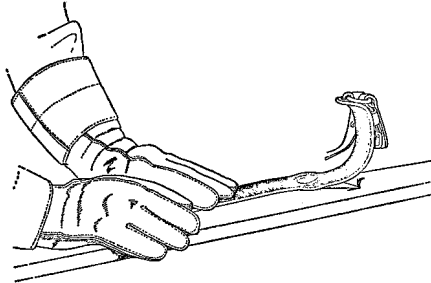

FIGURE 16.
- (1) Place the climber on a soft pine or cedar board as shown in Figure 16, with the point of the gaff and the loop strap resting against the wood surface. Hold the stirrup of the climber in a vertical position, without exerting any downward pressure, and slide the climber along the wood by pushing forward on the leg iron. If the climber is properly sharpened, it will dig into the wood and begin to hold within a distance of approximately one inch.